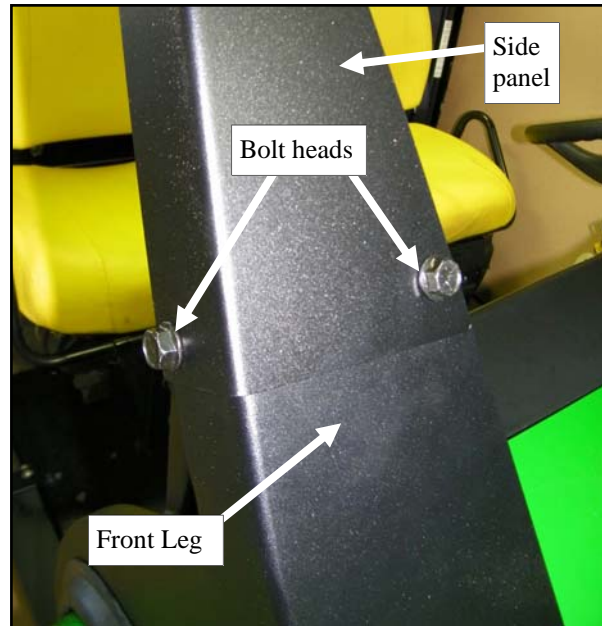

Fig. 3.1 (view of passenger's side)
3.1 Align the side panel to the front leg, as shown in figure 3.1. Fasten to the front leg using the hardware listed below. **Install finger tight at this time.**